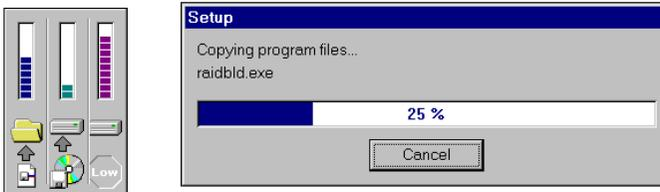

Figure 3-21. Installation Progress Display
6. During installation, files are decompressed and copied from the installation diskette to the destination directory (Figure 3-21).